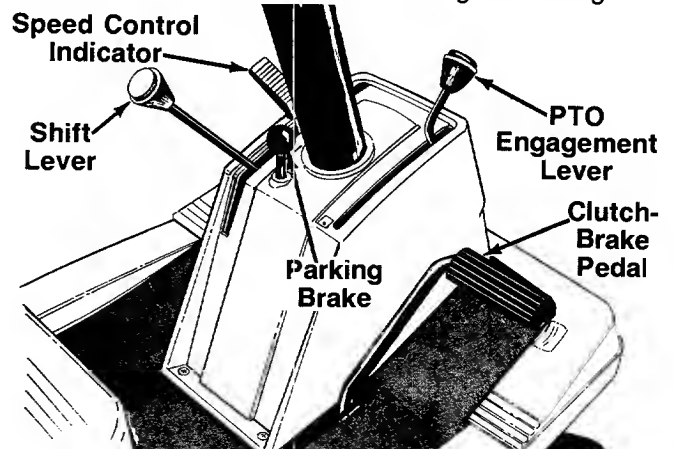

FIGURE 3.
The shift lever is located on the left side of the console. See figure 3. The shift lever is used to select one of eight (8) forward speeds, neutral or reverse. The clutch-brake pedal must be depressed and the lawn tractor must not be moving when shifting from forward to reverse gear. Do not force the shift lever.
The clutch-brake pedal is located on the right side of the rear engine lawn tractor. Depressing the clutch-brake pedal part way disengages the clutch. Pressing the pedal all the way down disengages the clutch and engages the disc brake to stop the lawn tractor. See figure 3.
To set the parking brake, depress the clutch-brake pedal and press the parking brake knob down. To release the parking brake, depress and release the clutch-brake pedal. See figure 3.
The PTO engagement lever is located on the right side of the console. See figure 3. To engage the blade, move the PTO engagement lever toward the front of the unit. Move the lever toward the rear to disengage the blade.